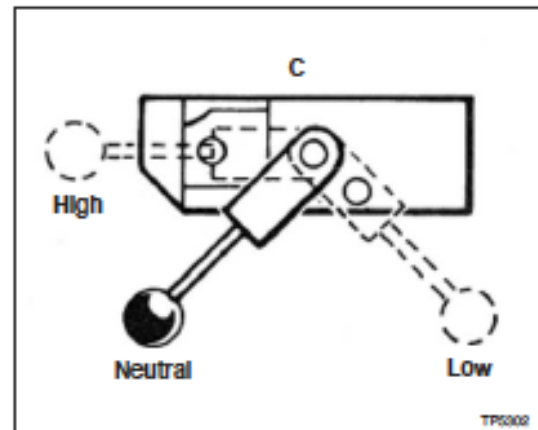

Figure 2.18 - Direct Drive Lever
2. Move lever "C", Figure 2.18, through neutral to HIGH.